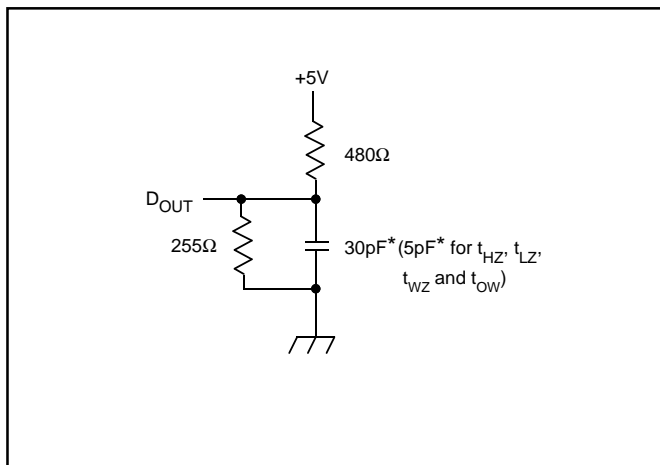

Figure 1. Output Load
7. Transition is measured $\pm 200\text{mV}$ from steady state voltage prior to change with specified loading in Figure 1. This parameter is sampled and not 100% tested.
- Transition is measured $\pm 200\text{mV}$ from steady state voltage prior to change with specified loading in Figure 1. This parameter is sampled and not 100% tested.
| Output Load | See Figures 1 and 2 |